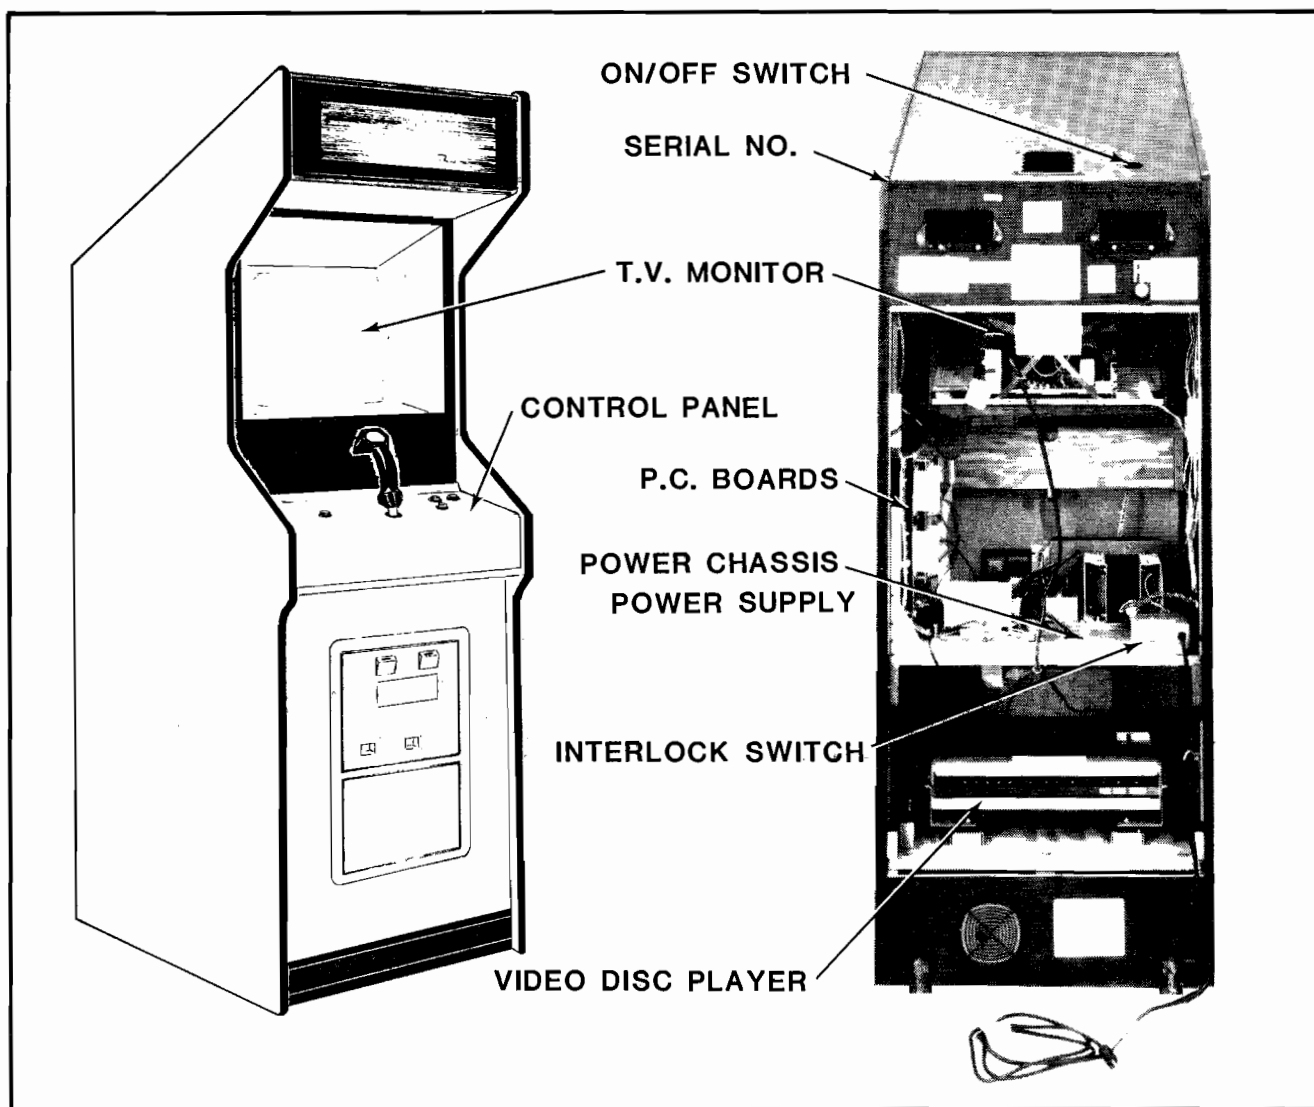

Figure 1-2 Location of Serial No., Interlock Switch, & Major Sub-Assemblies
5. Open the cabinet and inspect the inside of the game for any signs of damage. See Figure 1-2.
- Make sure all printed circuit boards (P.C.B.'s) are firmly seated in their connectors. See Figure 1-2. These connectors are also keyed. The P.C.B.'s will only go in to them one way
- Note the location of the games serial number. See Figure 1-2.
- Check all major subassemblies to be sure they are mounted securely. These are called out in Figure 1-2.
3. Interlock and power ON/OFF switches. See Figure 1-2.
The game ON/OFF switch is located as shown in Figure 1-2. Turn the game on and allow it to warm up a few minutes.